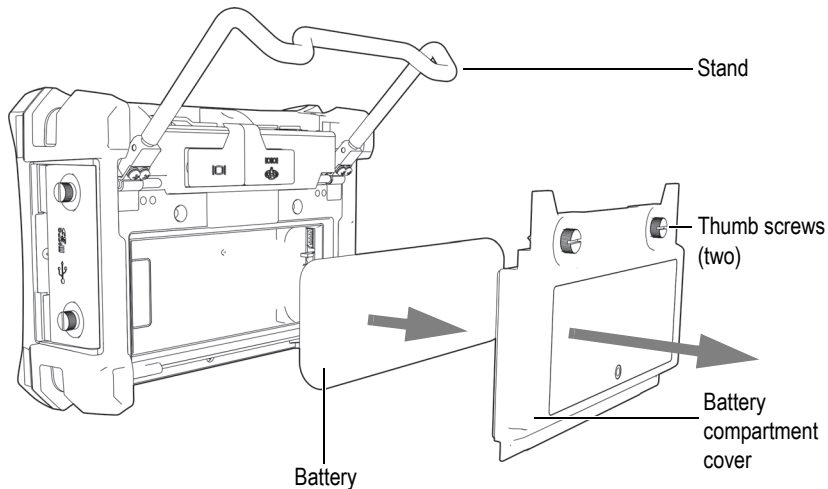

Figure 1-11 Removing the lithium-ion battery
1. Unfold the instrument stand (see Figure 1-11 on page 38).